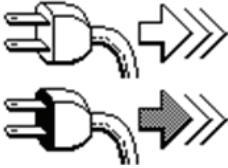

Figure 19
1. Unplug the charging cord (if necessary) (Figure 19). If the cord is still plugged in a reminder will display on the VCM when the key switch is turned on.